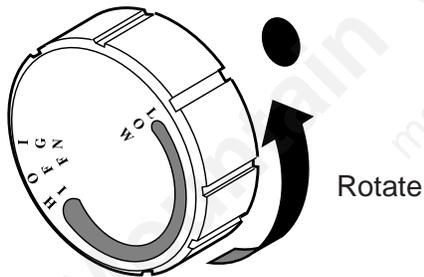

Figure 33 - Rotation of Control Knob
6. Turn the gas control knob counterclockwise  to the IGN position. See *Figure 33*. Push in and hold control knob for 5 seconds.
10. Turn control knob to any position between LOW and HIGH. The knob position controls the thermostat temperature. Refer to *Figure 33*.